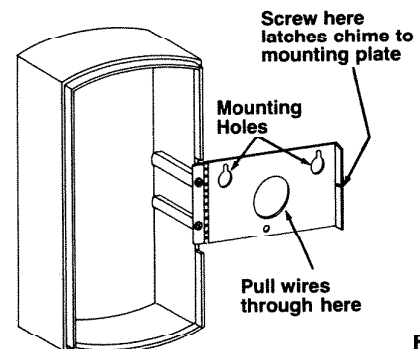

FIGURE 3
1. Position chime base plate (attached to chime) in the desired location on the wall. Use the base plate as a template to mark the mounting holes and wiring hole. See Figure 3.